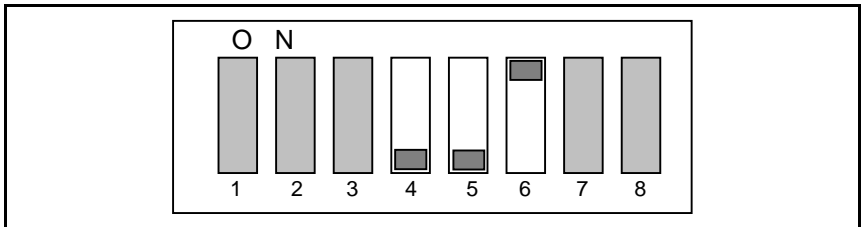

Figure 4-7: Radio Senses Charger and Control Unit
- To enable the radio to sense the **EVC and a remote control unit**, move switch 6 to the ON position. See Figure 4-7.